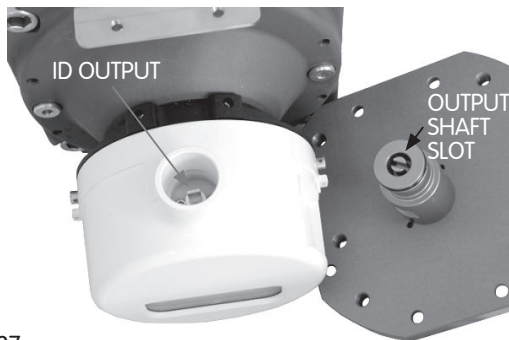

Figure 27.
- (1) Lubricate the adaptor plate assembly o-ring with silicone o-ring grease, light machine oil or petroleum jelly.
- (2) Carefully align the slot of the output shaft to the flat of the ID index output [Figure 27].